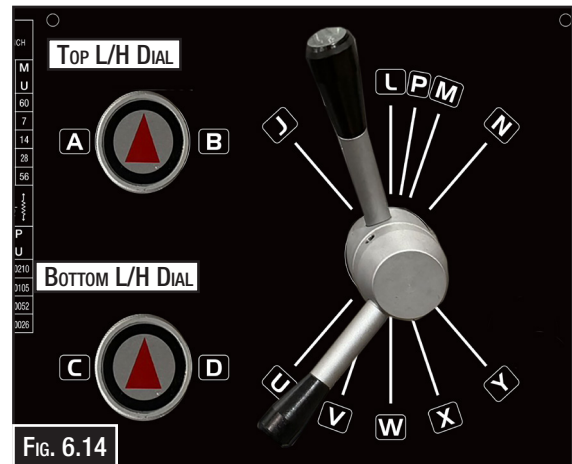

Fig. 6.14
2. Position the top left hand dial pointer between "A" and "B" , then position bottom left hand gearbox dial pointer between "C" and "D" (Fig. 6.14). This allows feed rod to move freely so adjustments can be made to the clutch.